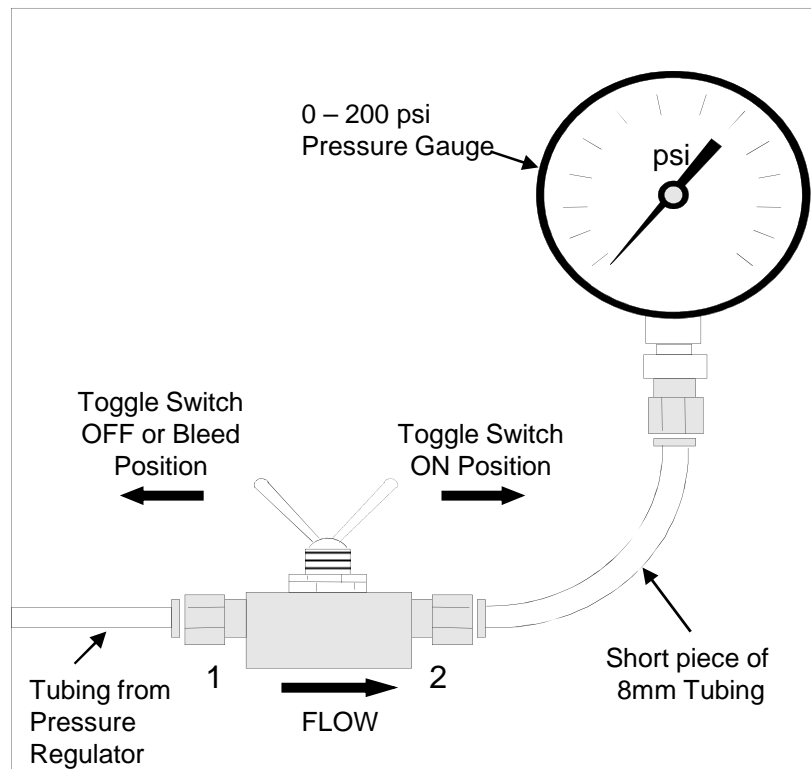

Figure 5
7.2 Push-fit Installer-provided length of 8mm tubing between 8mm Tubing Adapter on Pressure Regulator and #1 Inlet coupling on Bypass Switch. **See Fig. 5.**
7.3 Push-fit a short piece (6" - 12" length suggested) of Installer-provided 8mm tubing between #2 Outlet coupling on Bypass Switch and 0-200 psi Hand-Held Pressure Gauge. **See Fig. 5.**